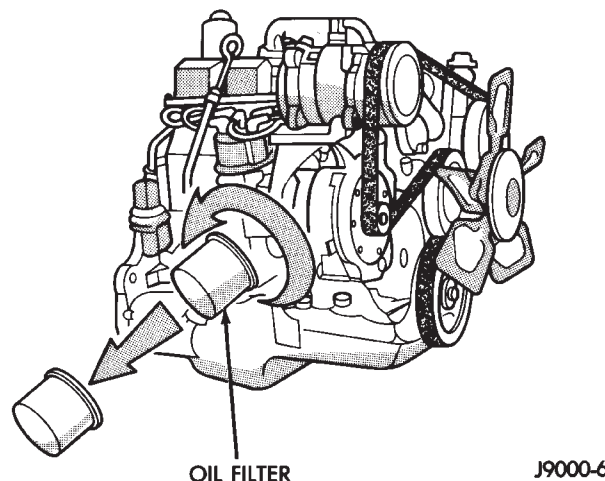
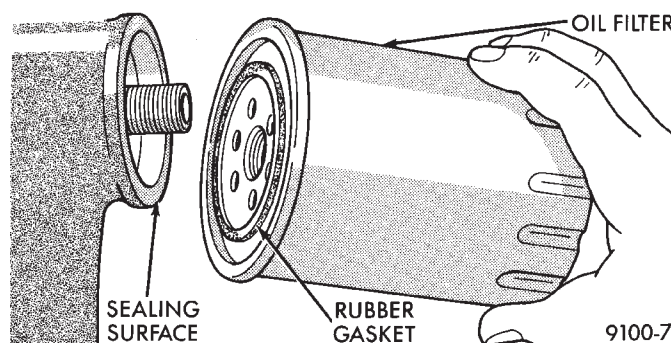

Fig. 8 Oil Filter—2.5L Engine
Fig. 9 Oil Filter Sealing Surface—Typical
(1) Position a drain pan under the oil filter.
(2) Using a suitable oil filter wrench loosen filter.
(3) Rotate the oil filter counterclockwise to remove it from the cylinder block oil filter boss (Fig. 8).
(4) When filter separates from adapter nipple, tip gasket end upward to minimize oil spill. Remove filter from vehicle.
(5) With a wiping cloth, clean the gasket sealing surface (Fig. 9) of oil and grime.
(1) Lightly lubricate oil filter gasket with engine oil or chassis grease.
(2) Thread filter onto adapter nipple. When gasket makes contact with sealing surface, (Fig. 9) hand tighten filter one full turn, do not over tighten.
(3) Add oil, verify crankcase oil level and start engine. Inspect for oil leaks.